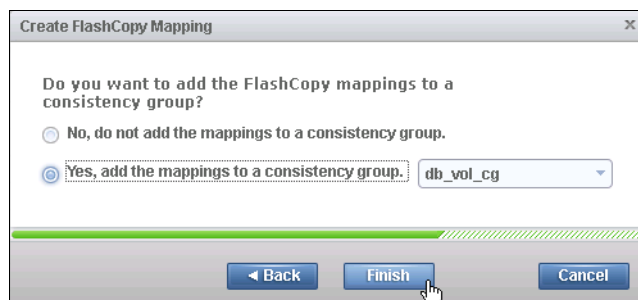

Figure 11-29 Select a consistency group to add the FlashCopy mapping to
5. Now you can add the FlashCopy mapping to a consistency group (Figure 11-29). Click **Finish** and the FlashCopy mapping is created with the status of Idle.